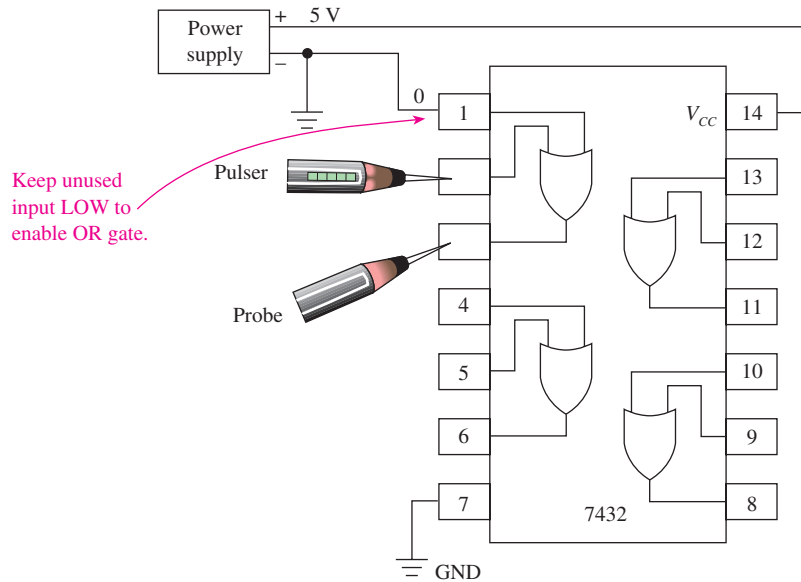

Figure 3-25 Connections for troubleshooting one OR gate of a 7432 IC.
Solution: The connections are shown in Figure 3-25. The probe should be flashing if the gate is good. Notice that the second input to the OR gate being checked is connected to a LOW (0) instead of a HIGH. The reason for this is that the output would *always* be HIGH if one input were connected HIGH. Because one input is connected LOW instead, the output will flash together with the pulses from the logic pulser if the gate is good.